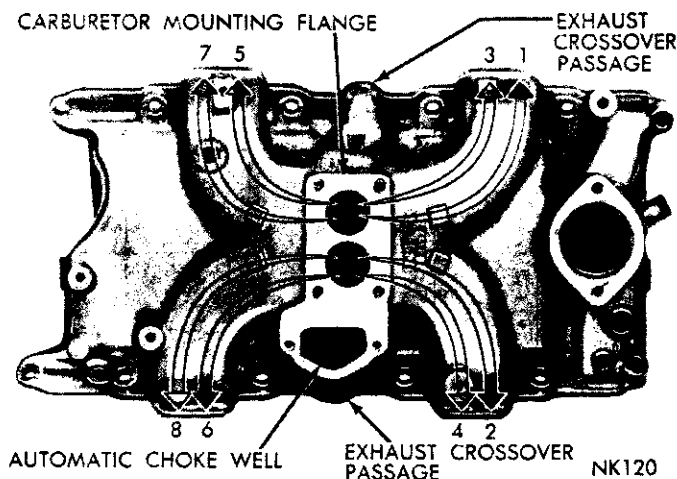

Fig. 9—Intake Manifold—318 Cubic Inch Engine (Typical)
- (1) Clean manifold in solvent and blow dry with compressed air. Inspect manifold for cracks.
- (2) Inspect mating surfaces of manifold for parallelism with a straightedge.
- (3) Inspect exhaust crossover passages through manifold (Fig. 9). If passages are coated with hard, black carbon, they should be scraped clean and sandblasted to remove the carbon deposits.
- (4) Install intake manifold, using new gaskets. Tighten manifold bolts to 35 foot-pounds.